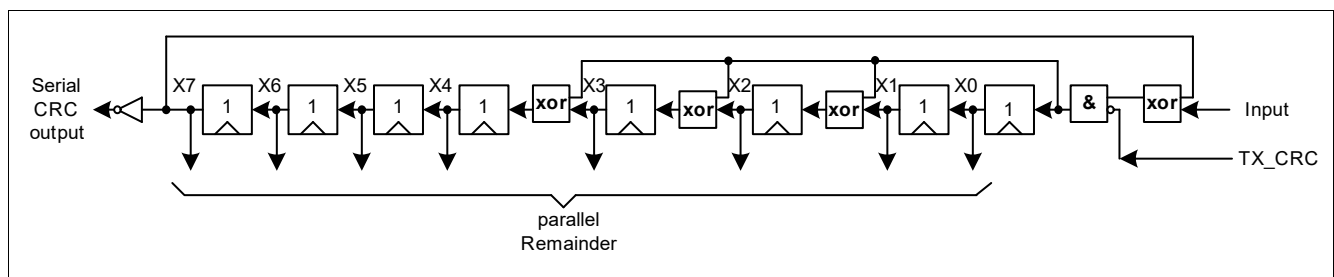

Figure 10 Fast CRC polynomial division circuit
- Generator-Polynomial: $X^8 + X^4 + X^3 + X^2 + 1$, but for the CRC generation the fast-CRC generation circuit is used (see Figure 10).